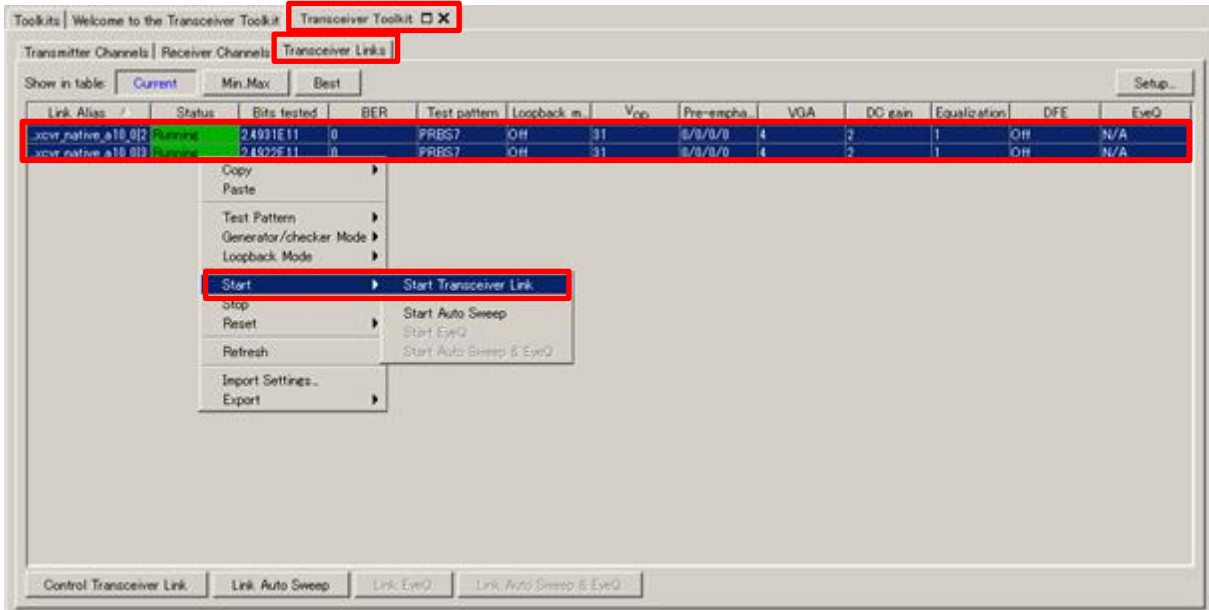
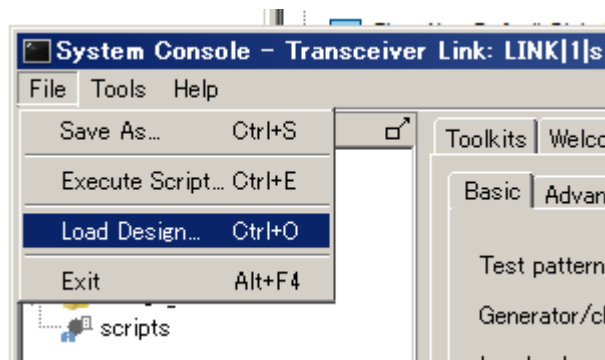

Figure 5-4 Transceiver Toolkit Operation Window
Figure 5-5 Loading sof File
- 10) After starting up the Transceiver Toolkit, wait a short time for the window in Figure 5-4 to appear. Select the “Transceiver Toolkit” → “Transceiver Links” tabs, and then highlight all the links that are shown in the list in Figure 5-4.
If you want to change the sof file, or if the window in Figure 5-4 does not open, select the same sof file as the file written to the FPGA previously by selecting “File” → “Load Design...” as shown in Figure 5-5.
- 11) Right-click in the highlighted part to open a context menu, as shown in Figure 5-4. At this point, click “Start” → “Start Transceiver Link” to start the test. If the reception status on the receiver channel side is green and the bit error rate is 0, then that means the loopback operation is running normally, as shown in Figure 5-6.